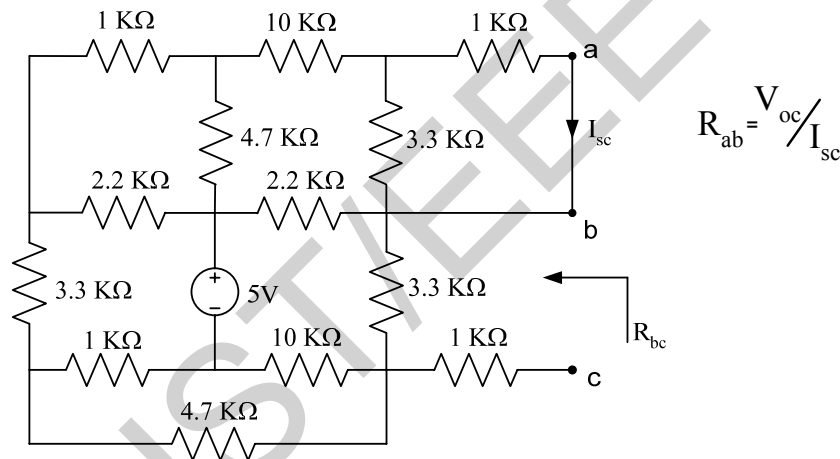

Figure 7.4: Resistance measurement using V_{oc}/I_{sc} method
3. Short-circuit the terminals a and b as shown in Figure 7.4 and measure the current flowing through these terminals. This is the short-circuit current I_{SC} .